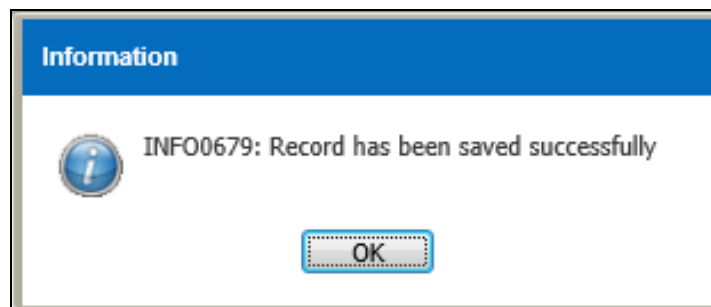

Figure 3.7.2-5 Information Message
- Record will save when user click on the  button as shown in Figure 3.7.2-5
- Click on the  button to create new transaction for Non Drug and fill the record as shown on Figure 3.7.2-2